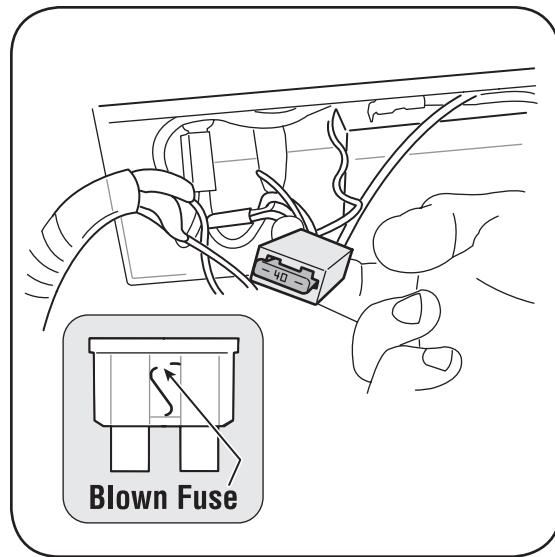

Figure 5-6: When replacing fuse, use a standard automotive 7½ amp fuse.
2. Remove fuse from socket and inspect as shown in Figure 5-6. If it is burned out, replace with standard automotive 40 ampere fuse.